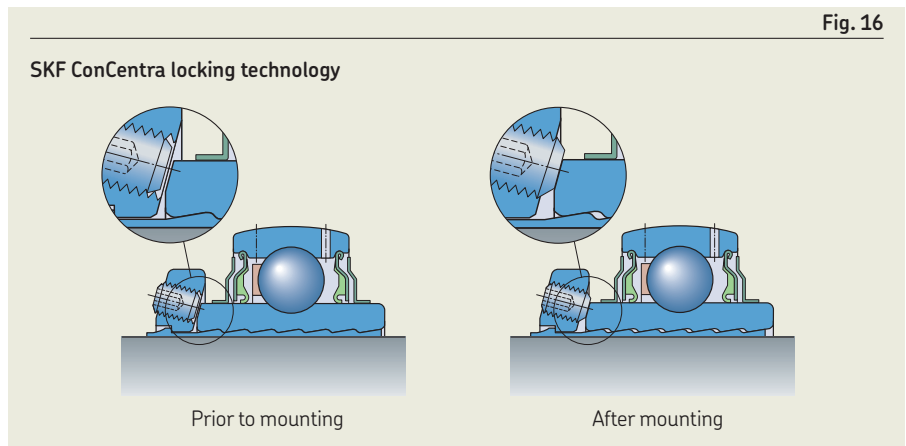

Fig. 16
- provide a true concentric fit on the shaft, because when the grub screws in the mounting collar are tightened, the inner ring is axially displaced relative to the stepped sleeve (fig. 16), forcing the bearing inner ring to expand and the stepped sleeve to contract evenly